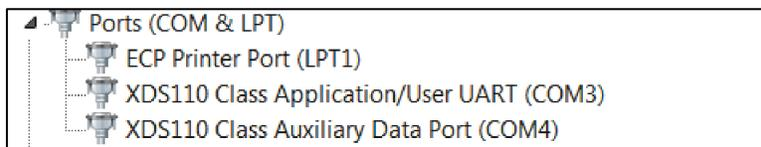

Figure 1-2. Device Manager Ports
1. If the mmWave device is connected by the USB cable to the PC running this app, then you can locate the following COM ports using the Device Manager on a Windows PC (see Figure 1-2).